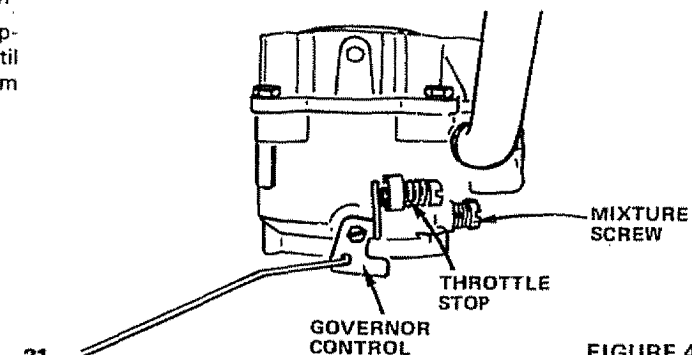

FIGURE 49
- a. Gently turn idle mixture valve clockwise (↻) Fig. 49 until it just closes and then counterclockwise (↺) 1 1/2 turns.
- d. Hold governor control lever against idle speed screw, and adjust idle speed screw to obtain 1200 to 1400 RPM. Fig. 49.